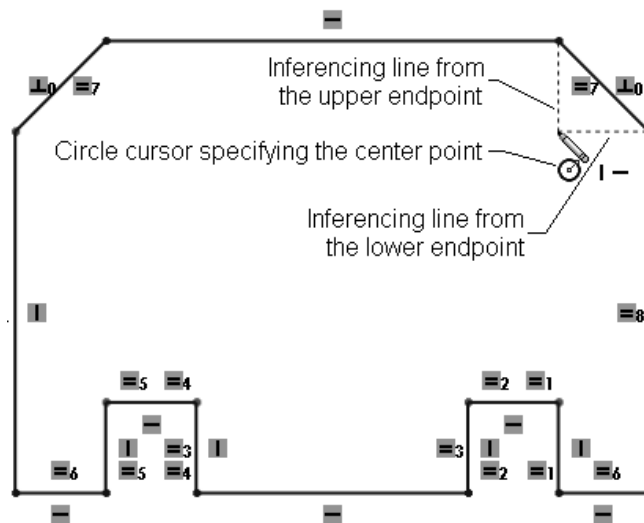

Figure 2-68 Drawing a circle with the help of inferencing lines
3. Move the circle cursor close to the lower endpoint of the right inclined line and then move it toward the left. Remember that you will not press the left mouse button at this moment. An inferencing line is displayed originating from the lower endpoint of the right inclined line. On moving the cursor toward the left, you will notice that at the point where the cursor is vertically in line with the upper endpoint of the right inclined line, another inferencing line originates from the upper endpoint of the right inclined line. This inferencing line will intersect the inferencing line generated from the lower endpoint of the inclined line, as shown in Figure 2-68.